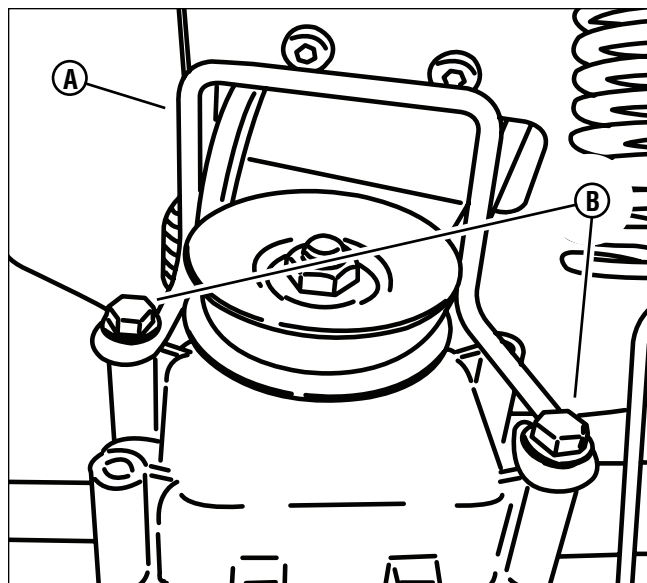

Figure 22: Removing the belt guide
- a. Remove the hardware (**B, Figure 22**) securing the belt guide (**A**) to the transmission assembly. Remove the belt guide.